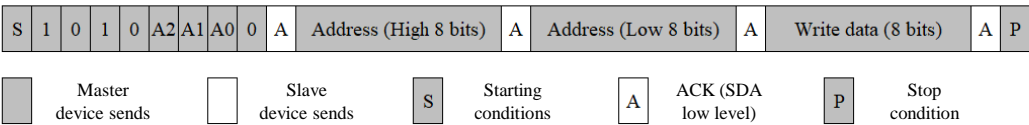
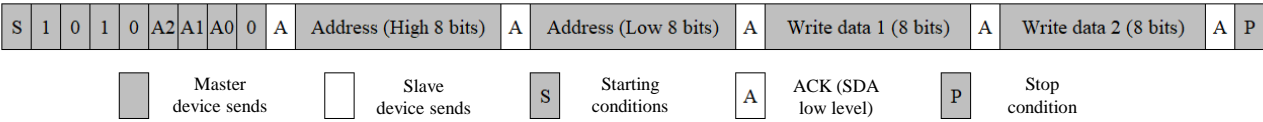

Figure 6 Single byte write diagram
Figure 7 Schematic diagram of multi-byte writing (taking 2 bytes as an example)
All write operations, including the single-byte write shown in Figure 6 and the multi-byte write shown in Figure 7, begin with a start condition, followed by the device address, and then the memory address to be accessed and the data to be written. The R/W bit in bit 0 of the device address must be set to 0 to indicate a write operation. The slave generates an acknowledgement (ACK) after successfully receiving 8 bits of data from the master, and a non-acknowledge (NACK) if reception fails. The master can write any number of bytes in a single write operation. After receiving an acknowledgment from the slave, the write operation ends with a stop condition (P). Data is written to the memory in ascending order, starting with the input memory address. The address counter rolls over to 0000h after reaching the last address, 7FFFh.